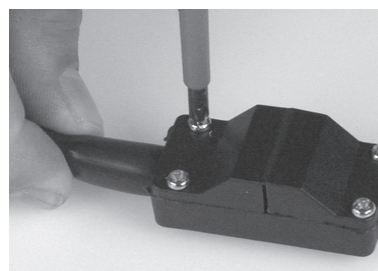

Fig 5
6. Close the connection box (Fig 5).